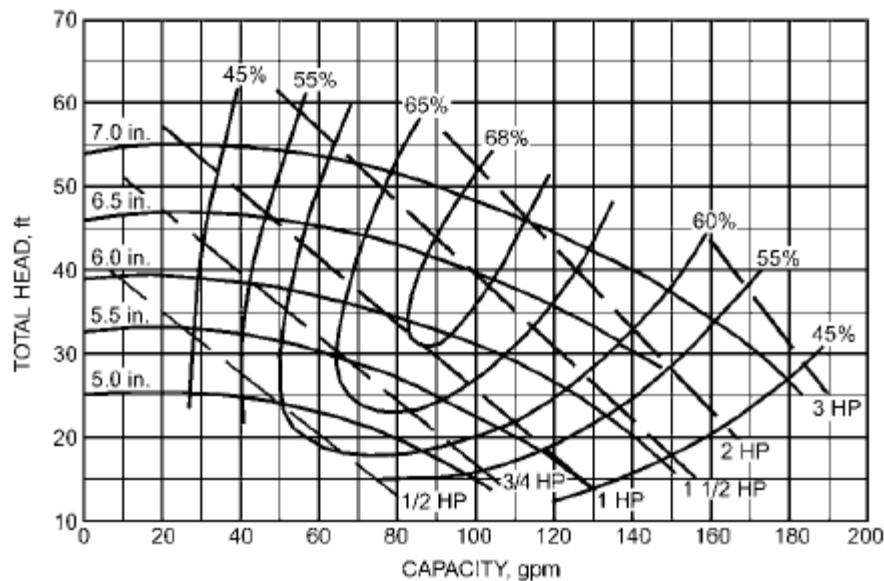
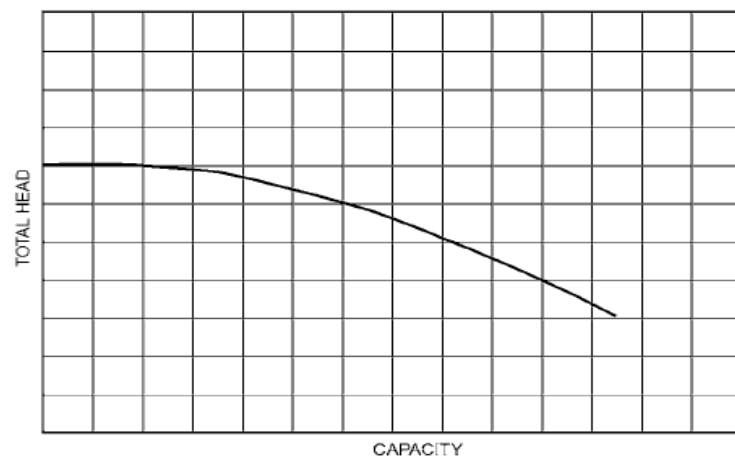

Figure 19 Typical Pump Performance Curve
Figure 20 Typical Pump Curve
- Performance of a centrifugal pump is commonly shown by a **manufacturer's** performance curve (Figure 19) and **the figure displays** the pump power required for a liquid (water) with a specific gravity of 1.0 over a particular range of impeller diameters and flows.
- The curve is sometimes called the head-capacity curve (HQ) for the pump.
- TDH represents the difference in total head between the suction side and the discharge side of the pump. This discharge head decreases as the flow increases (Figure 20). Motors are often selected to be non-overloading at a specified impeller size and maximum flow to ensure safe motor operation at all flow requirements.
A family of curves is useful in determining the approximate size and model required, but the particular pump curve (Figure 19) must then be used to confirm an accurate selection.